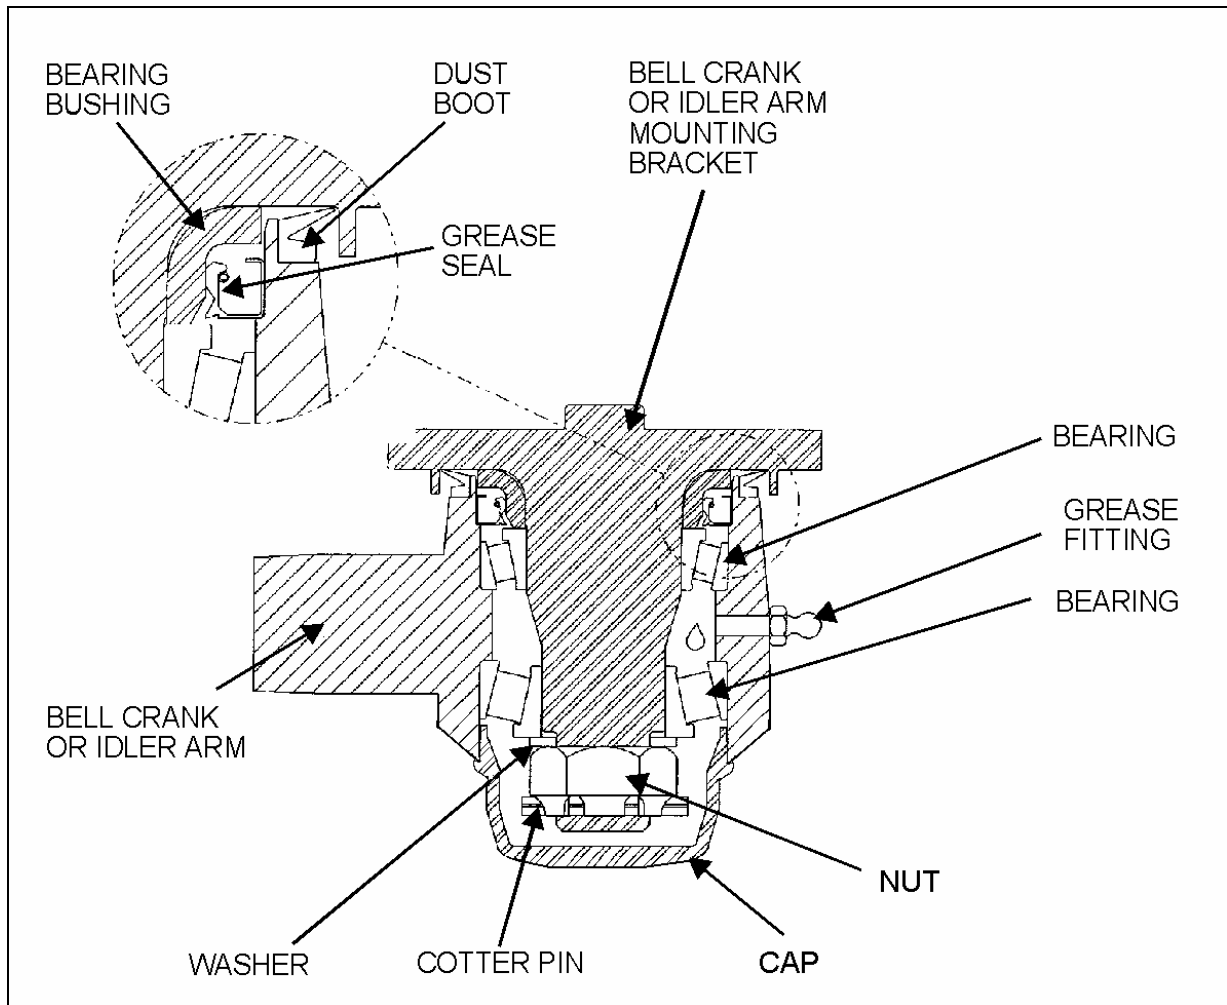

FIGURE 8: BELL CRANK AND IDLER ARM BALL JOINT
2. Remove the cap (Fig. 8).
3. Remove the cotter pin, nut and tongue washer. Remove bearings, grease seal, bearing bushing and the bell crank or idler arm from its mounting bracket stud (Fig. 8).
2. Install bearing and grease seal in bell crank or idler arm eye (Fig. 8).
Note : Install grease seal according to figure 8. Grease must be able to exit the bell crank or idler arm mechanism. For grease seal installation use tool Prévost # 110683.
3. Install bell crank or idler arm on its mounting bracket stud (Fig. 8).
Note: Bend cotter pin around the nut (Fig. 8). Do not bend the cotter pin in the direction of the cap, because it may interfere with the cap.